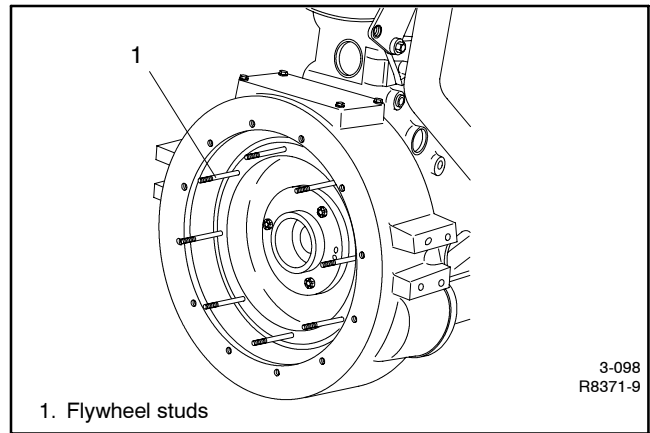

Figure 3-3 Flywheel Studs, Typical
2. If studs are used, apply Loctite® No. 271 red to stud threads and install into flywheel as shown in Figure 3-3. Install studs completely into flywheel. Apply Loctite® No. 242 blue to stud threads on nut side.